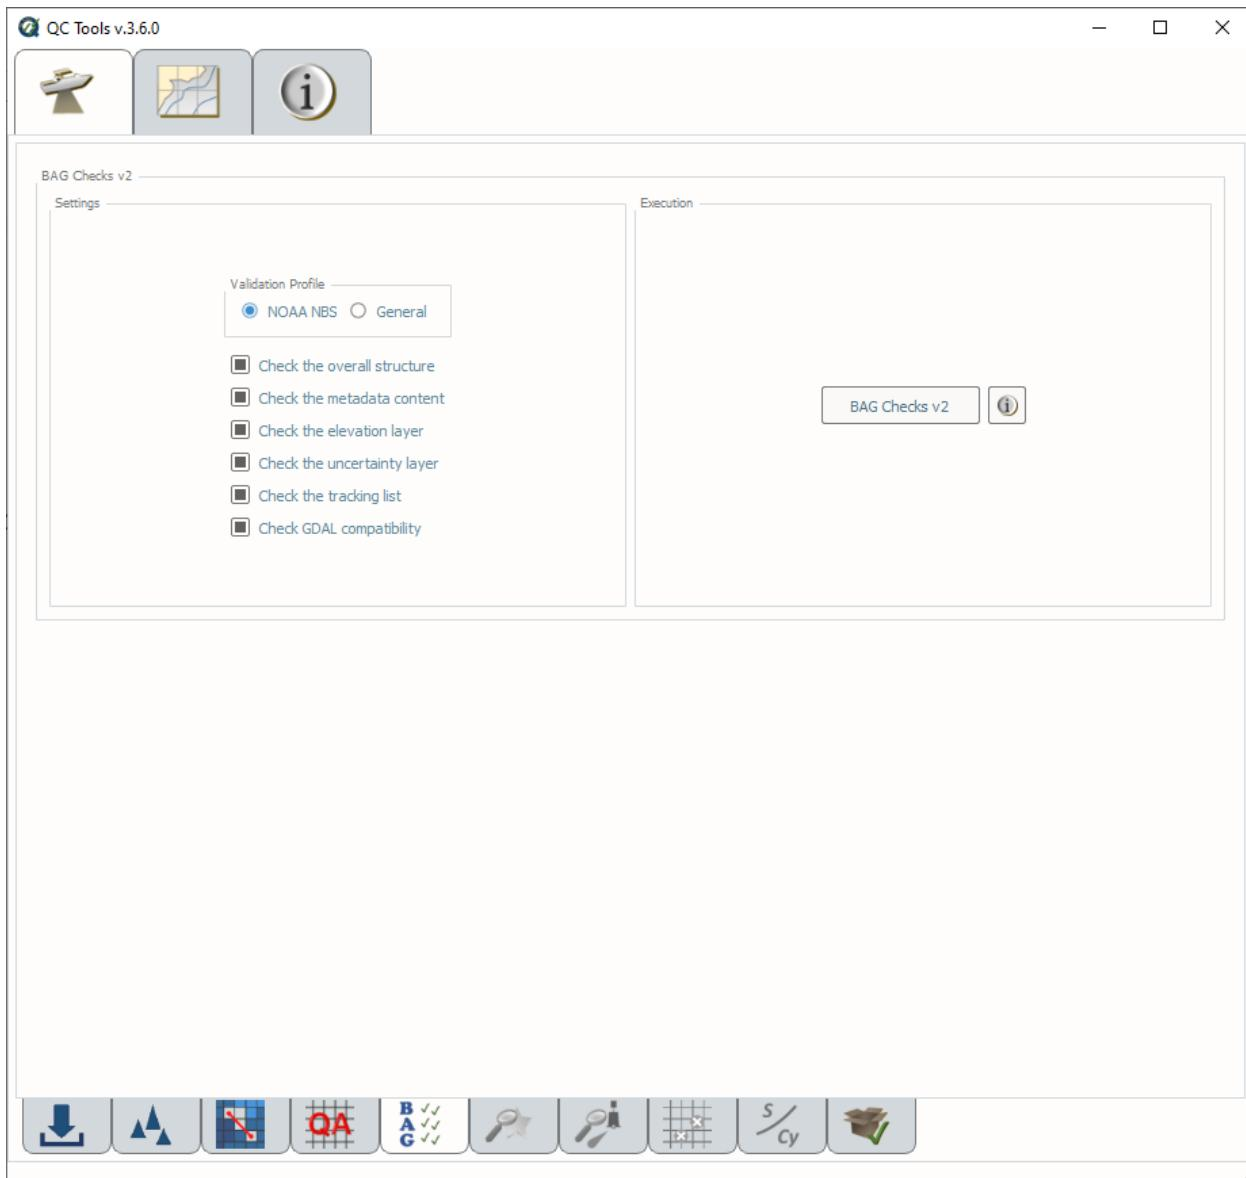

Fig. 2.36: The BAG Checks tab.
- Select the **BAG Checks** tab (Fig. 2.36) on the bottom of the QC Tools interface.